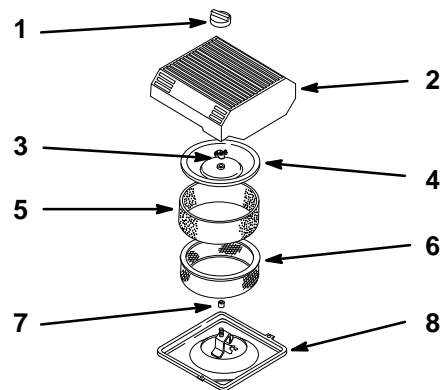

Figure 21
2. Clean around the air cleaner to prevent dirt from getting into the engine and causing damage. Unscrew the knob and remove the air cleaner cover (Fig. 21).
3. Carefully slide the foam element off the paper element (Fig. 21).
4. Unscrew the cover nut and remove the cover and paper element (Fig. 21).
1. Carefully slide the foam element onto the paper air cleaner element (Fig. 21).
2. Place the air cleaner assembly onto the air cleaner base (Fig. 21).
3. Install the air cleaner cover and secure with cover nut (Fig. 21).